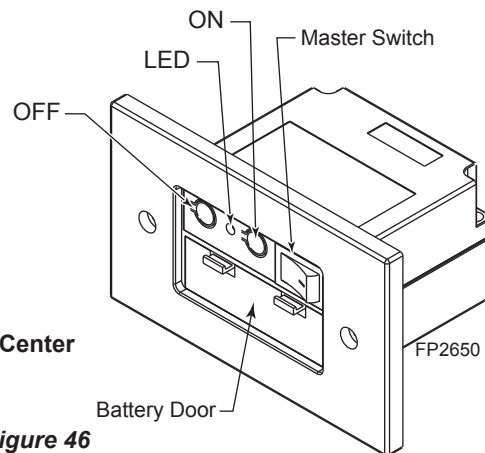

Figure 46
4. During the 10 seconds, press the OFF button on the transmitter to learn. Another two beeps will be given to confirm a successful learning. *Figure 46*